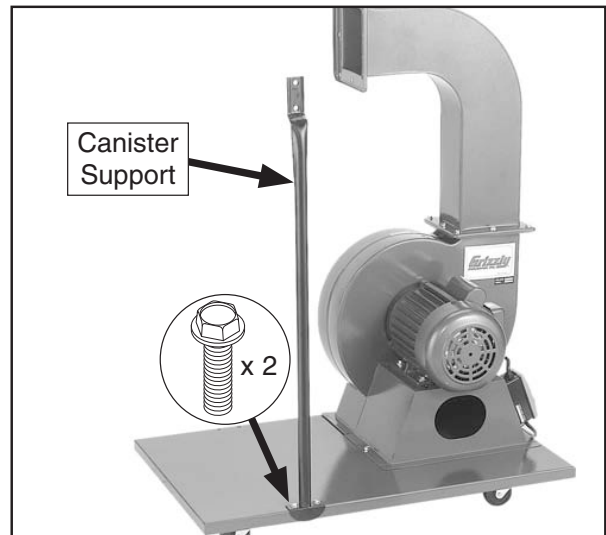

Figure 18. Canister support installed.
6. Align the canister support with the mounting holes on the base, as shown in **Figure 18**, then secure it in place with (2) $\frac{5}{16}$ -18 x $\frac{1}{2}$ " flange bolts.